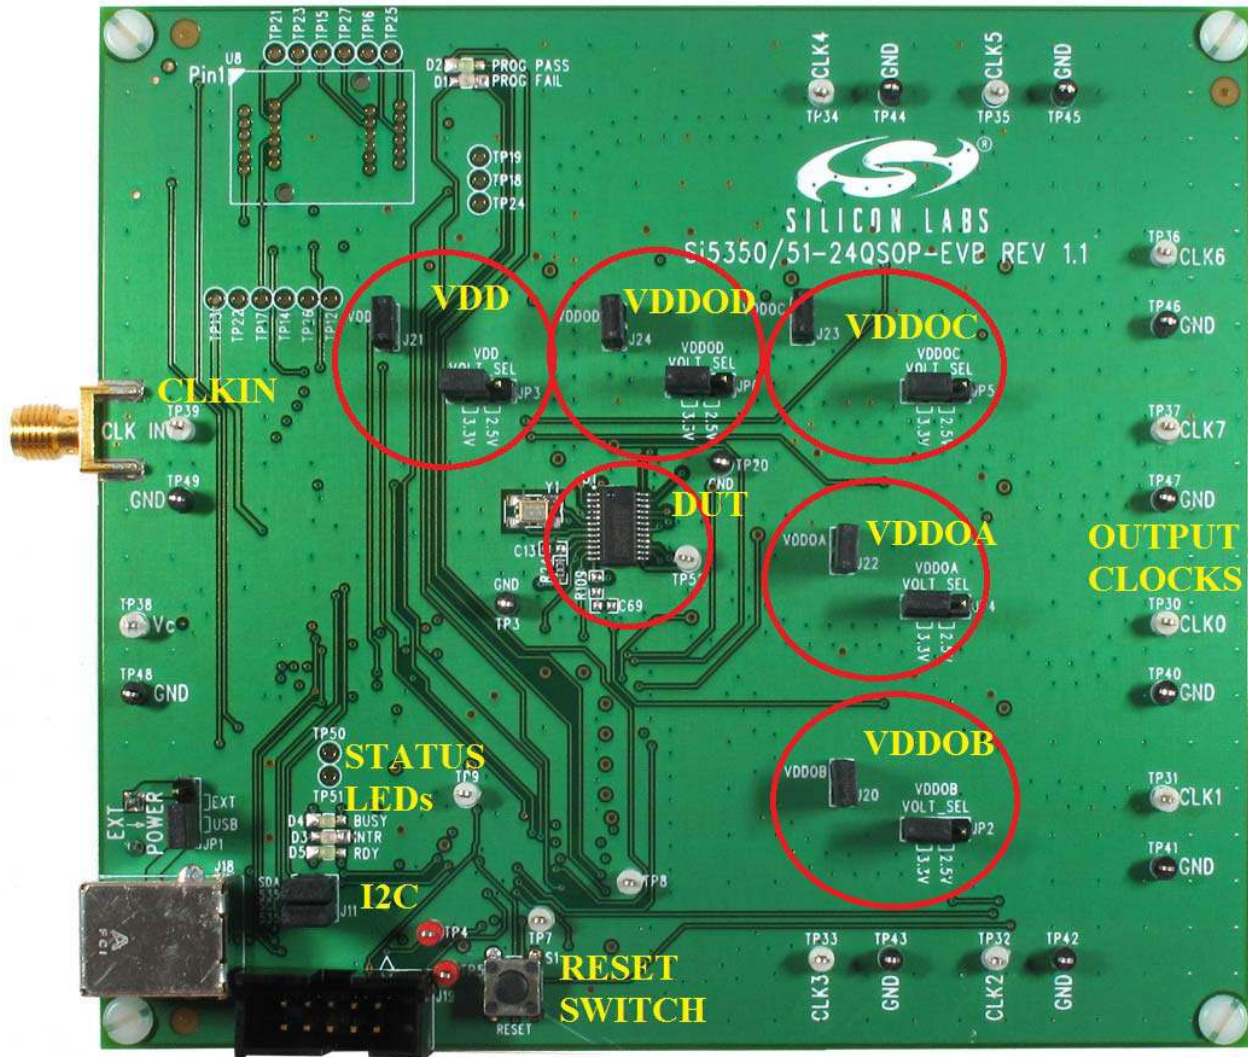

Figure 1. EVB Features
Figure 1 highlights the main features of the EVB. The onboard MCU is responsible for programming the Si535x timing IC, measuring the device's current consumption reported in ClockBuilder™ Desktop, managing power, and controlling status LEDs. VDD and VDDO jumper options allow the option to choose between 2.5 V and 3.3 V or to power the device with external supplies (see “2. Jumpers” for details). I2C jumpers allow the Si535x to be disconnected from the I2C bus to allow external control from another I2C master.
- **EXP POWER**—Allows user to select between 5 V USB supply and 5 V external supply on J17. See Figure 1 for jumper locations.